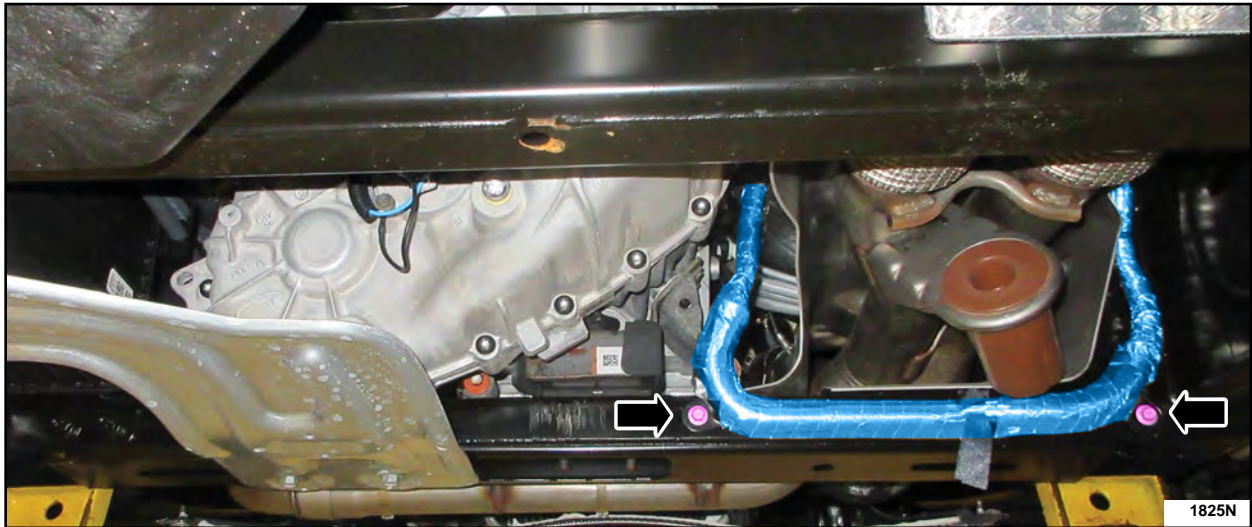

FIGURE 21
38. Remove the two transmission wiring harness bolts from the crossmember and position the wiring harness aside. See Figure 21.
62. Install the two transmission wiring harness bolts into the transmission crossmember. See Figure 21.